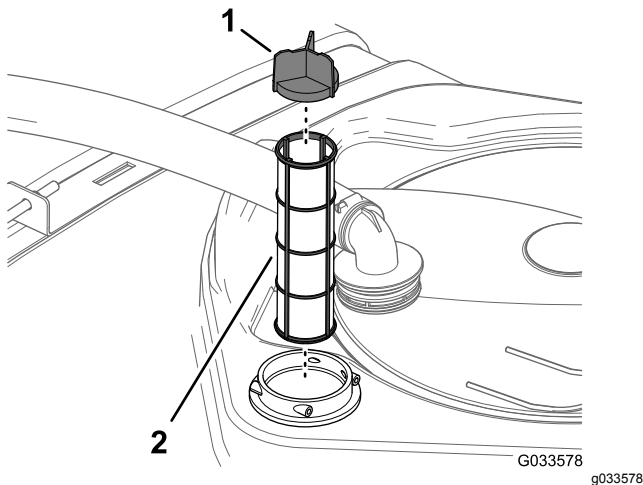

Figure 98
4. Remove the old suction filter from the filter housing in the tank (Figure 98).